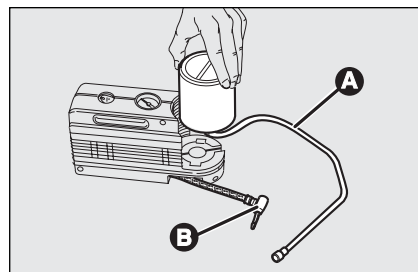

fig. 18
- ☐ desengate o engate **B-fig. 18**;